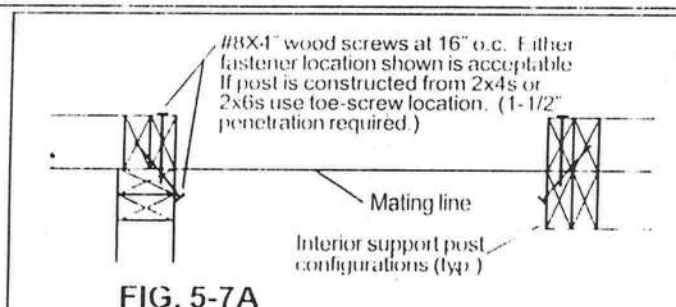

FIG. 5-7A
10. If home has double mating walls, then fasten the mating wall columns together with  $\#8$  x  $4"$  screws  $16"$  o.c. See Figure 5-7A.